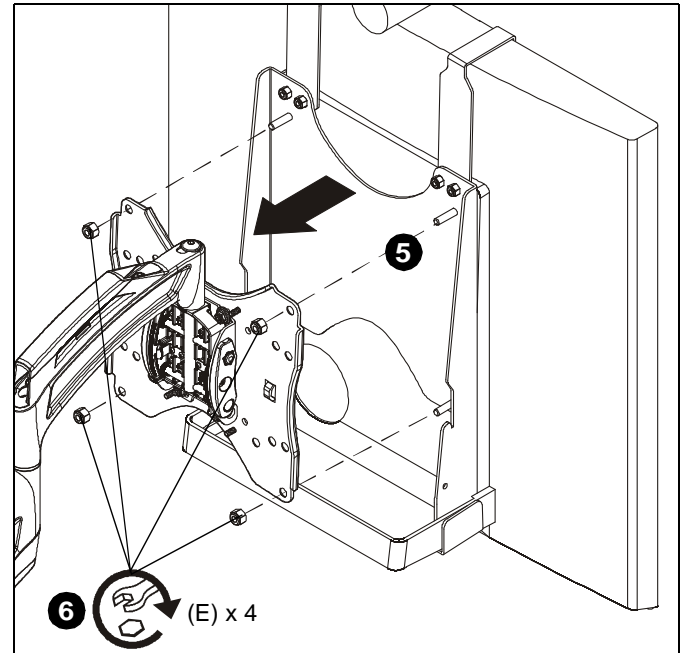

Figure 3
5. Attach display to swing arm by lining up and inserting four studs on interface bracket (A) into holes in swing arm. (See Figure 3)
**IMPORTANT !** : If attaching to the Chief TS318 swing arm, use four .750x.344x.500 spacers (G) on the mount studs before attaching the mount to the swing arm face.
6. Fasten display to swing arm using four 10-24 locknuts (E). (See Figure 3)